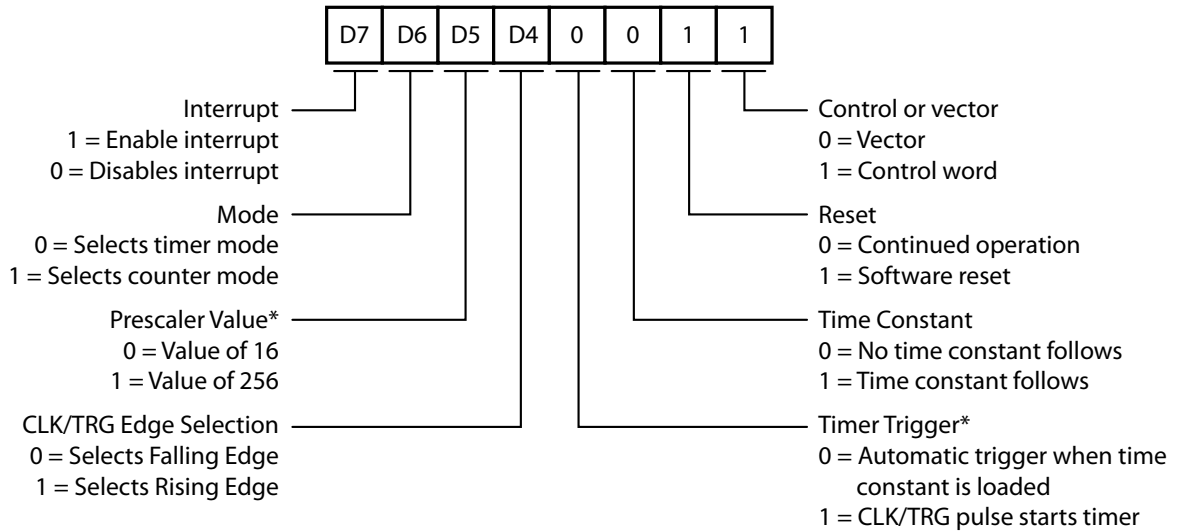

Figure 16. CTC Channel Control Word
**Channel Control Word.** This word sets the operating modes and parameters as described in the following paragraphs. Bit D0 of the CTC Register must be a 1 to indicate a Control Word; otherwise, it is an Interrupt Vector Word. See Figure 16.